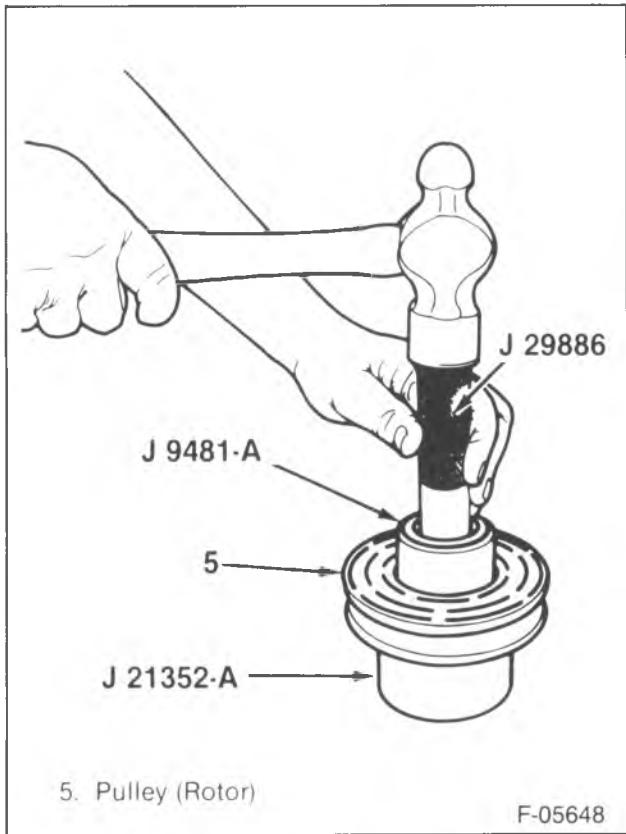

Figure 13—Installing the Pulley Rotor Bearing
2. Pulley bearing (4) into the hub using J 29886, J 9481-A and J 21352-A (figure 13).